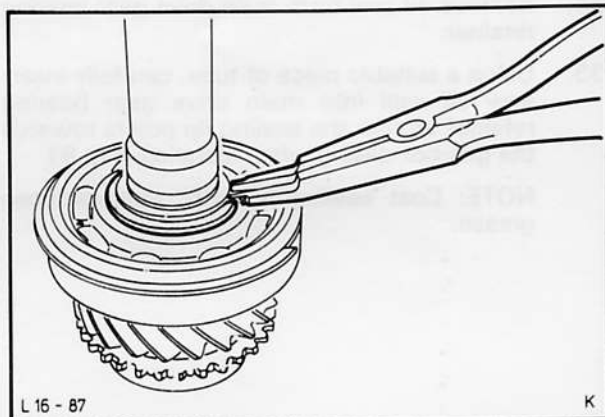

Fig. 88. Remove circlips
30. Remove circlips from input shaft and ball bearing, Fig. 88. Then press ball bearing off input shaft.